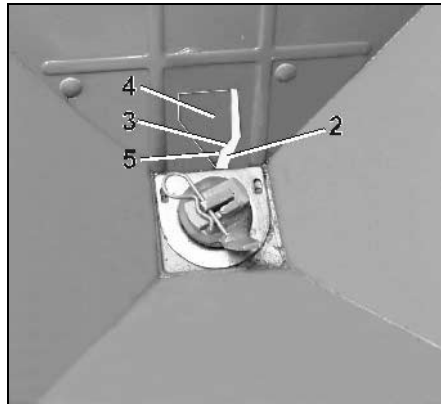

Fig. 61
- At outlet diameter (Fig. 61/2) created with shutters slide position "11", the edge (Fig. 61/3) of the shutter slide (Fig. 61/4) must intersect the lower corner (Fig. 61/5) of the outlet opening.